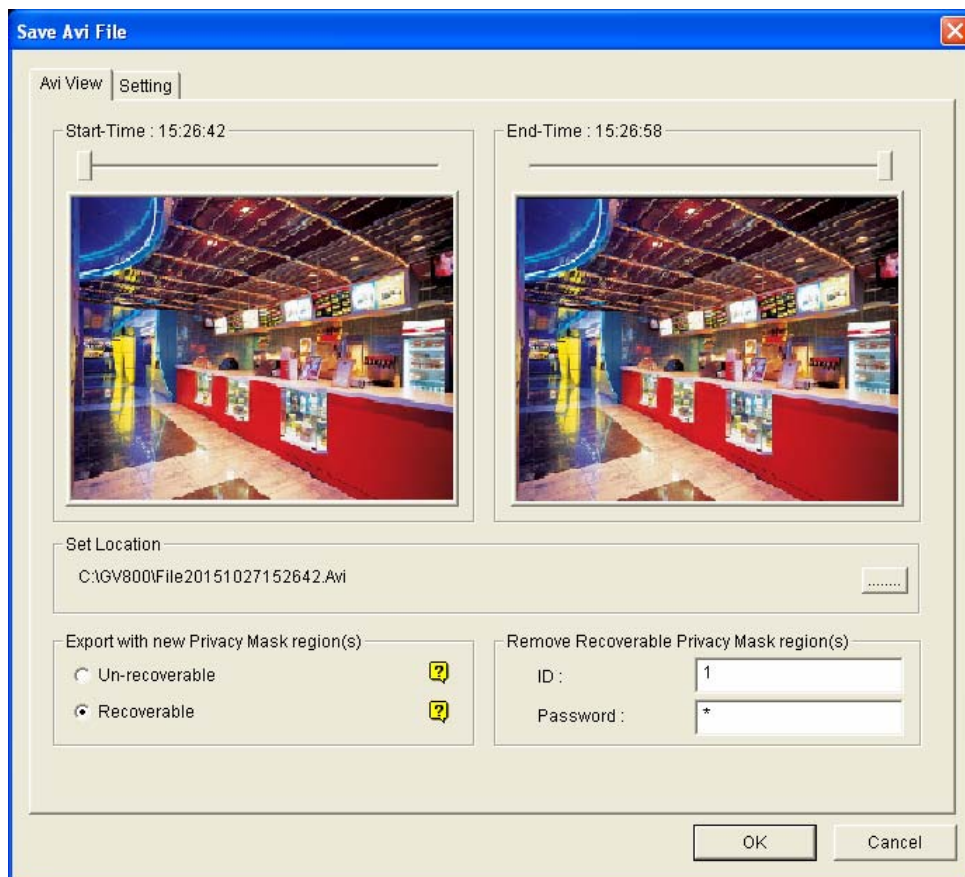

Figure 4-8 Save AVI File
1. In the Export with New Privacy Mask Region(s) section (see Figure 4-8), select **Un-recoverable** and/or **Recoverable**.